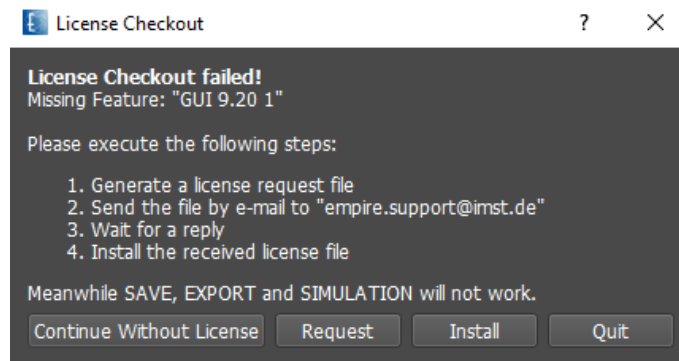

Figure 2.3.: EMPIRE XPU™ License checkout failure
- **License Request** Starting Empire and clicking the **Request** button, see Fig.2.3
If no license can be found or a license has expired the following window as in Fig. 2.3 will come up.